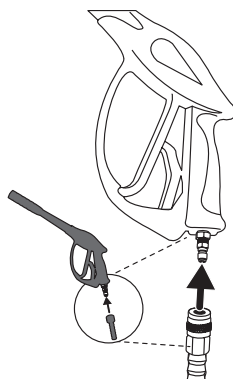

Figure 3-3
- Pull quick-connect coupler back on the hose and insert gun. Release quick-connect coupler and twist gun to make sure it is secure in coupler. See Figure 3-3.